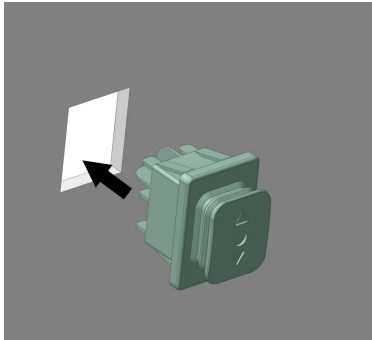
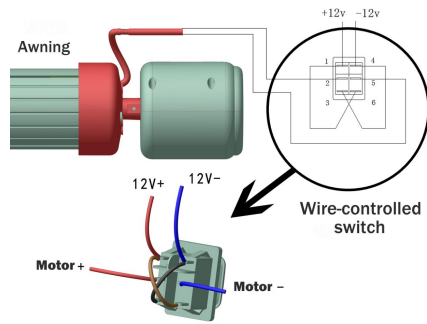

Figure D20
Figure D21
4.1 Firstly, install the wire control switch in a suitable position inside the vehicle (Figure D20). After the canopy is installed, introduce the motor wire into the vehicle and connect it according to Figure D21. It is recommended to use a 2-core power cord with RVV2 * 1.5mm or more and a wire length of no more than 3m for the motor power cord (the wiring part inside the car needs to be prepared).